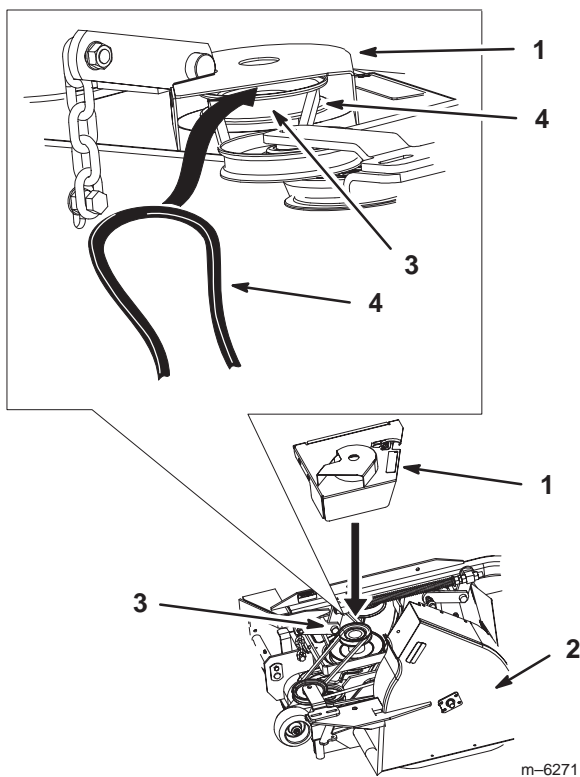

Figure 12
5. **For 52 inch mowers only**, loosely install the belt cover, insert the bagger belt under the belt cover and onto the top mower pulley. Secure the belt cover latch (Fig. 12).